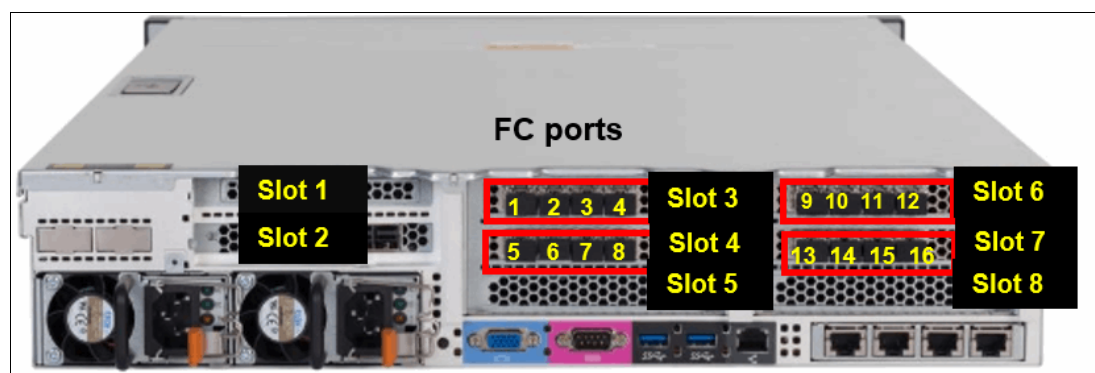
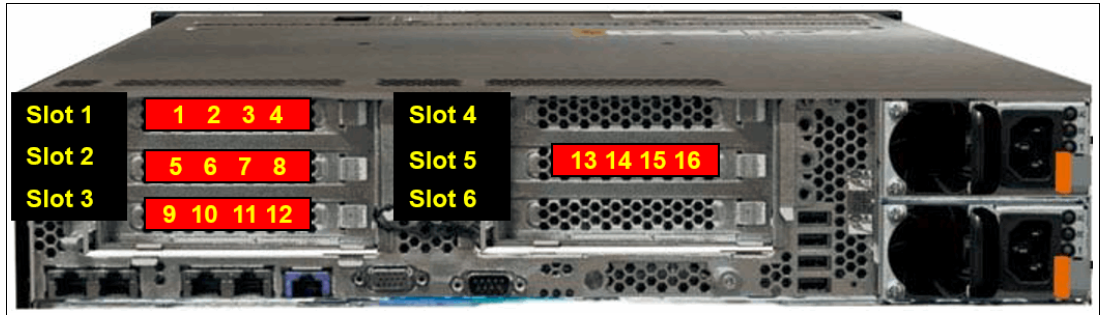

Figure 1-9 SAN Volume Controller 2145-SV1 rear port view
Figure 1-10 SAN Volume controller 2145-DH8 rear port view
The SAN volume controller can have up to up to four quad Fibre Channel (FC) HBA cards (16 FC ports) per node. The rear view of the 2145-SV1 node in Figure 1-9 shows the port location and Figure 1-10 on page 13 show the 2145-DH8 node port and slot locations.